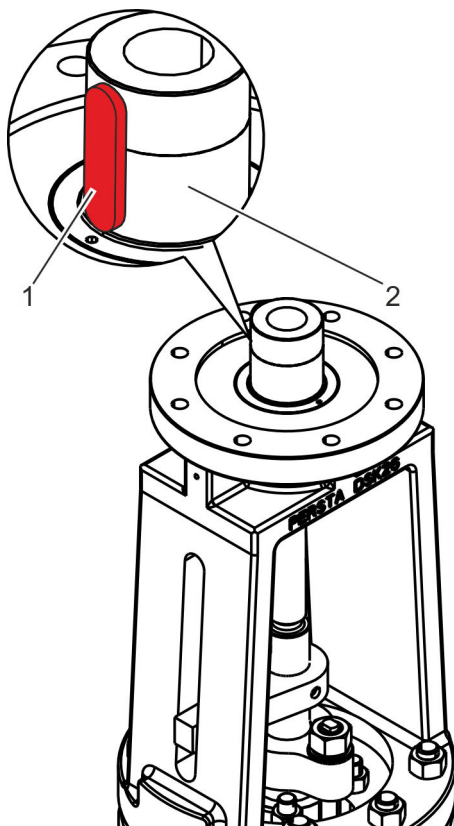

Fig. 32: Removing the feather key
4. ➔ Remove the feather key (Fig. 32/1) from the feather key groove of the hub (Fig. 32/2).
6. ➔ Insert the feather key (Fig. 32/1) into the feather key groove on the hub (Fig. 32/2).